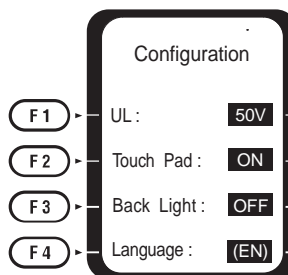

Fig.10
2. Then, Configuration Screen (Fig.10) is displayed.